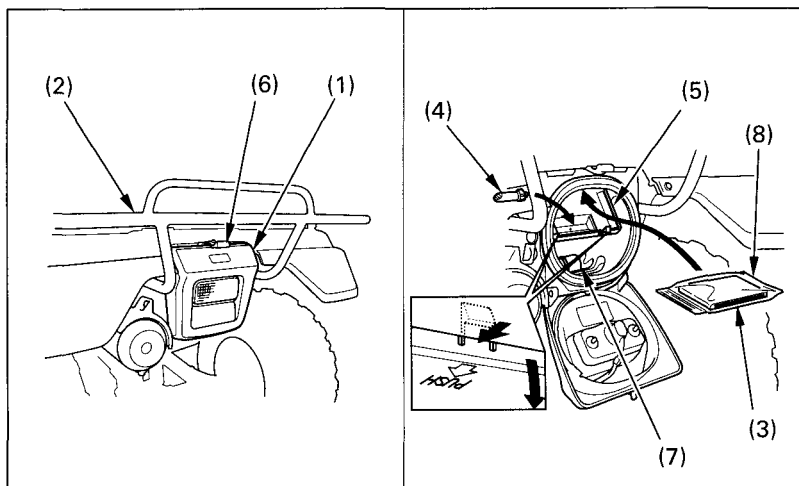

Fig. 2-30
The storage compartment (1) (Fig. 2-30) is below the rear cargo rack (2).